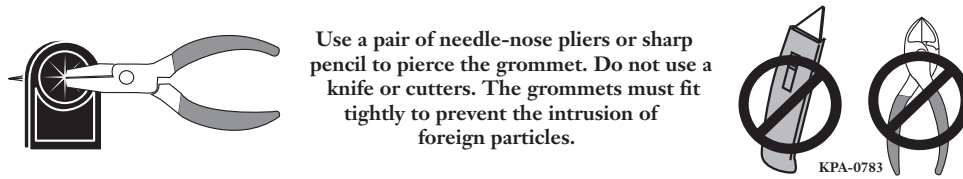

Figure 4 — Prepare Entry Grommet
- Step 3:** Prepare the appropriate cable entry grommet (Figure 4).